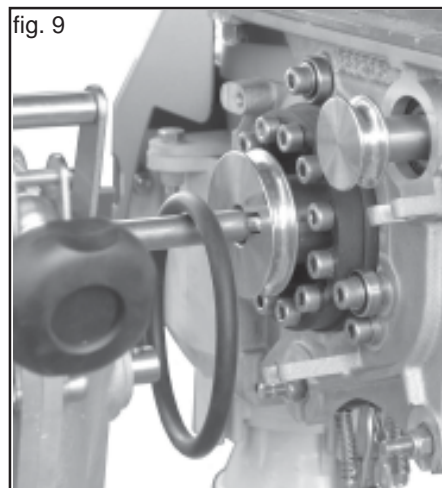

fig. 9
- Simply leave the belt on the drive shaft (Fig. 9).